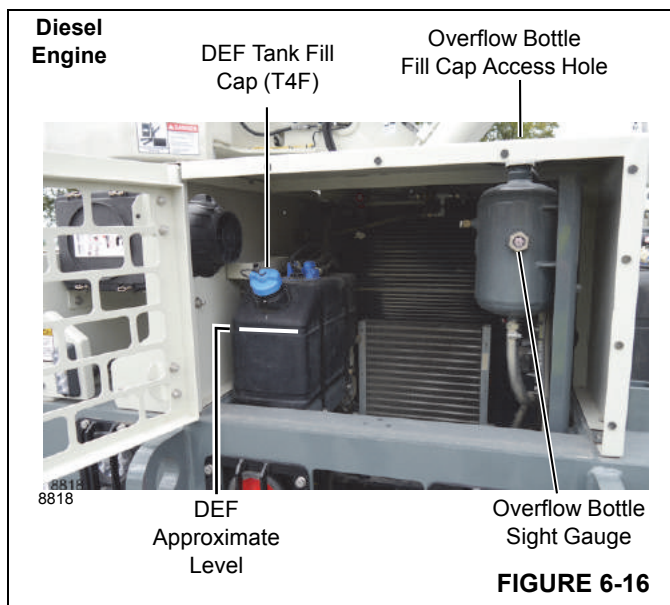

FIGURE 6-16
2. For Diesel Engine (Figure 6-16):
With the T4F engine ignition switch on, the DEF (diesel exhaust fluid) level should be between the **E** and **F** marks on the gauge cluster in the operator cab. If, during operation, the amber DEF low indicator light comes on, fill the DEF tank (Figure 6-16) with DEF as specified in the engine manual.